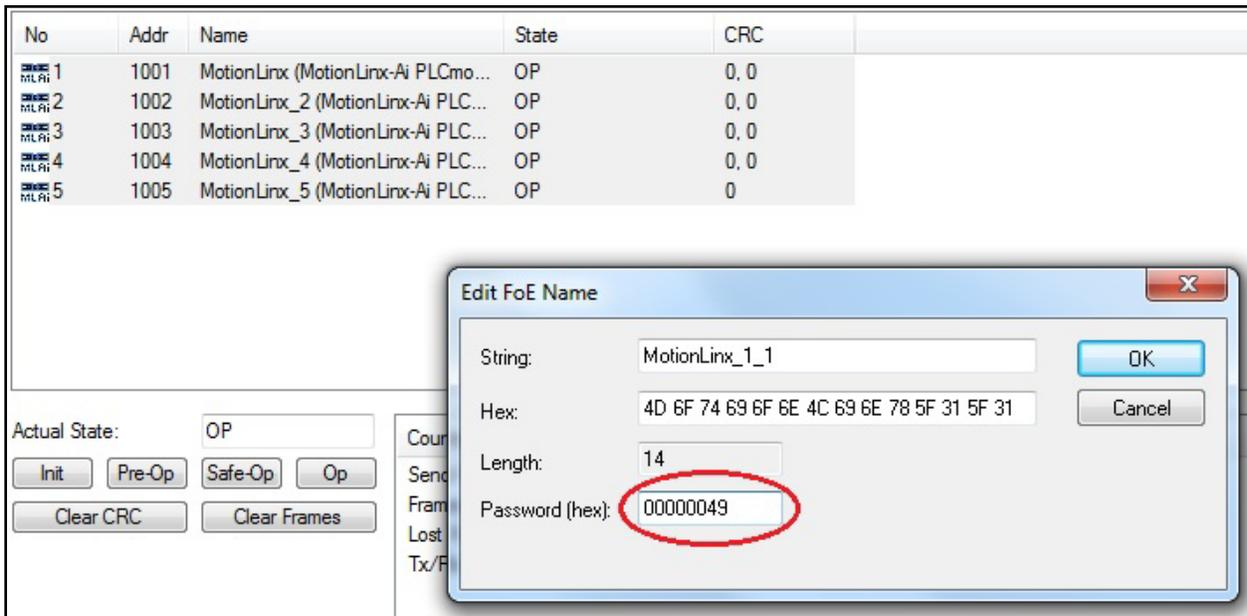

FIGURE 20 - FIRMWARE UPGRADE EXAMPLE WITH PASSWORD
When you select “Firmware Upgrade” a browsing window will appear. Navigate to where you placed the downloaded file and select. Please note you will have to enter a password (49) to complete the upgrade as shown in Figure 20.